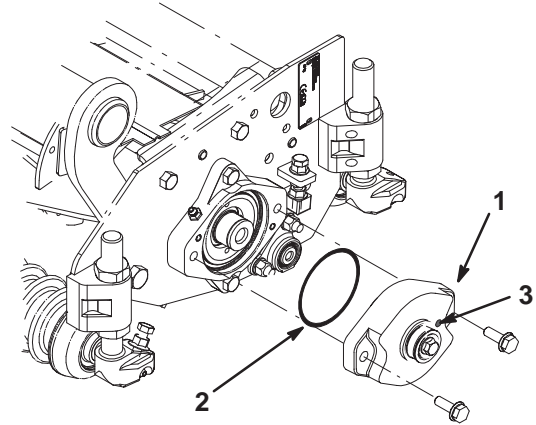

**Figure 3**
3. Remove the (2) bolts securing the counter weight to the left end of the cutting unit. Remove the counter weight (Fig. 3).